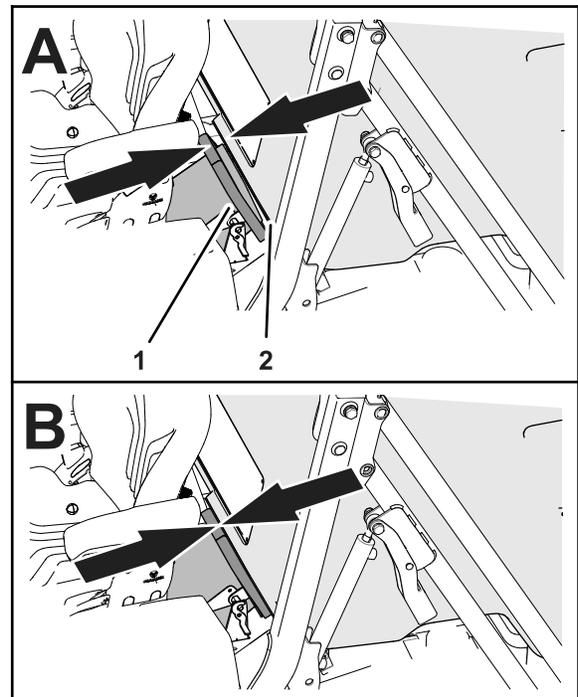

Figure 110
3. Slide the hopper forward or rearward until the hopper inlet aligns with the chute seal (Figure 110).